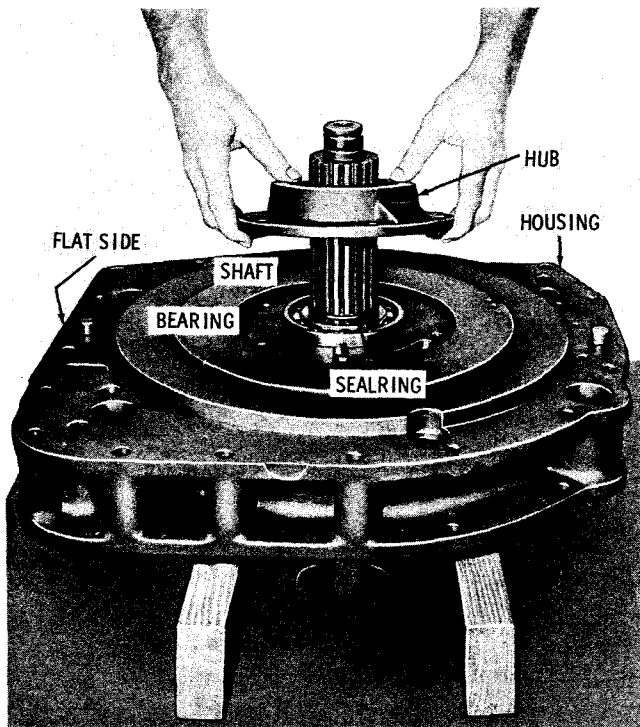

Fig. 7-48. Installing oil transfer hub onto retarder housing
(14) Install the ball bearing, sealing and oil transfer hub onto the rear of the retarder housing (fig. 7-48). Retain the hub with five 1/2-13 x 1 1/4 bolts and lockwashers. Tighten the bolts to 67 to 80 pound feet torque.